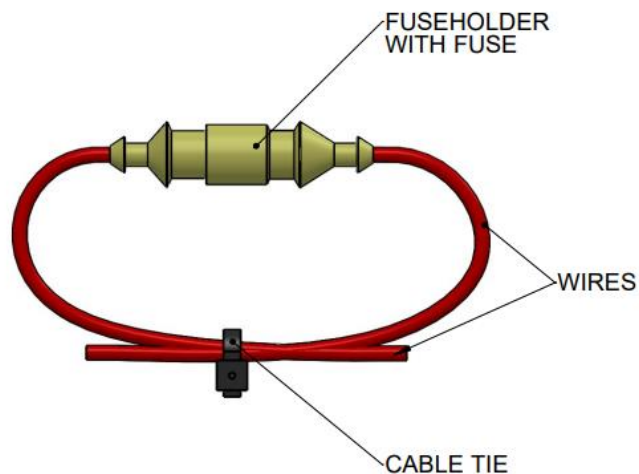

Figure 22: HHB Fuse Holder Assembly
8. Loop the wires and secure both wires together with a cable tie as shown in **Figure 22: HHB Fuse Holder Assembly**.